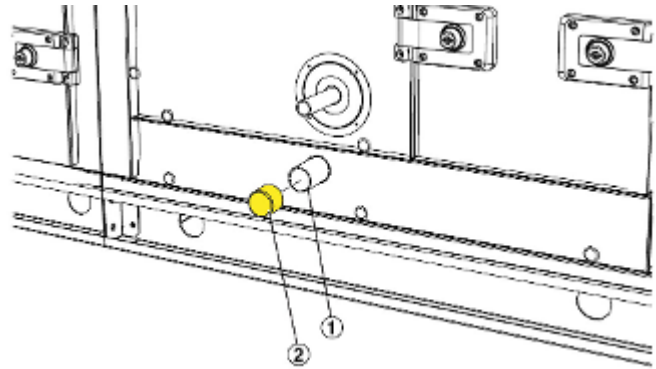

Fig. 26: Condensate drain
2. ▶ Remove the protective cap(s) (Fig. 26 /2) from the drain (Fig. 26 /1) of the condensate drip tray.
4. ▶ Connect a drain trap to each condensate drain (Fig. 26 /1).